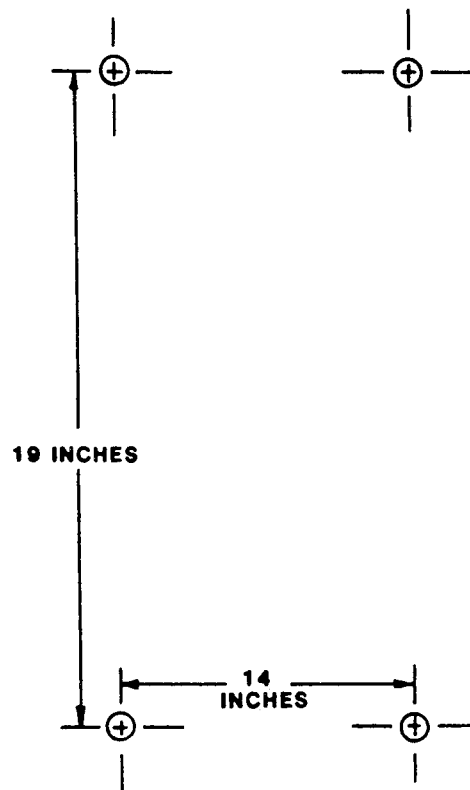

Figure 1. KSU Mounting Dimensions
1. A full scale mounting template is supplied in the KSU packing box. Hold or tape this template to the mounting surface, and mark the location of the mounting holes on the mounting surface as they are located on the template. The KSU mounting dimensions are as shown on Figure 1.
3. Attach the KSU to the mounting surface with four (4) screws installed through the KSU mounting flange and into the mounting surface holes. Note that the flange holes are elongated with an enlargement at one end of the hole. This feature allows the mounting screws to be partially installed in the mounting surface before the KSU is hung on them.